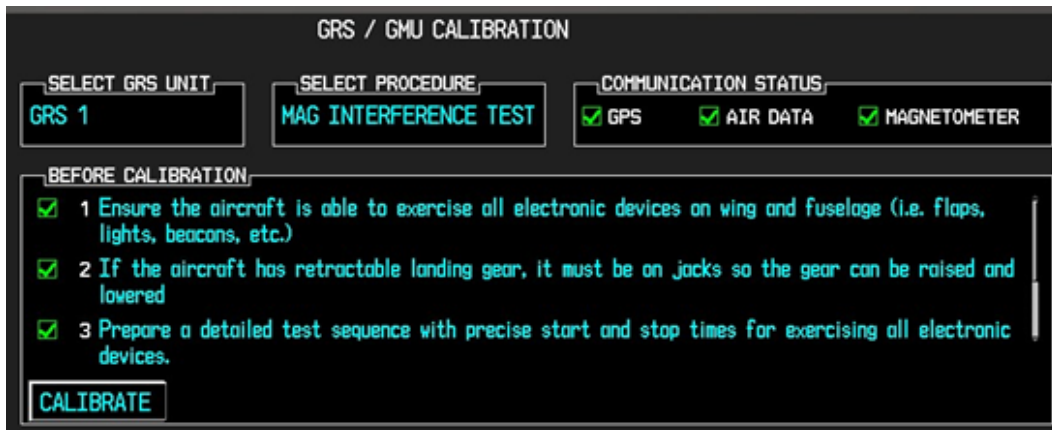

Figure 7-6. GRS / GMU Calibration Page
- a) Enter Configuration Mode and go to GRS/GMU Calibration page as shown in Figure 7-6.